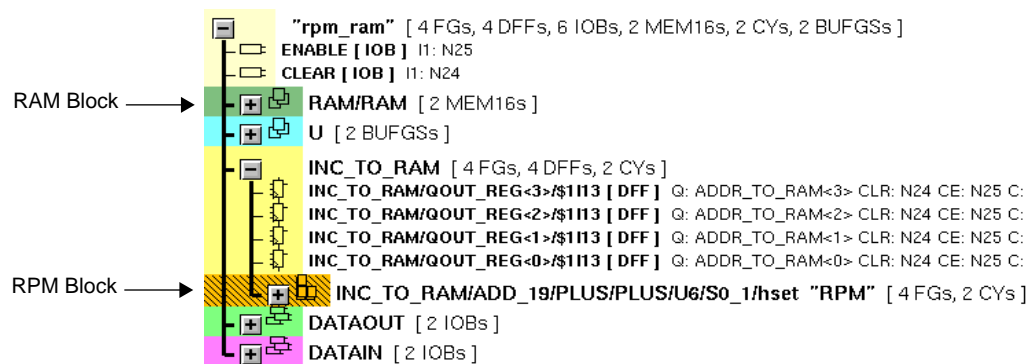

Figure 4-10 Section of Design Window
The Floorplanner reads the MAP file, loads the correct device, opens the Design window, and opens the Floorplan window with the correct FPGA die. The design is displayed in the Design window, as shown in Figure 4-10.
4. Click on the Expand button (“+” sign) for the RAM block pointed to by the arrow in Figure 4-10.
5. Click on the Collapse button (“-” sign) to collapse the RAM block and return to the level of hierarchy shown in Figure 4-10.
9. To floorplan the RPM block, click on the RPM block icon pointed to by the arrow in Figure 4-10.